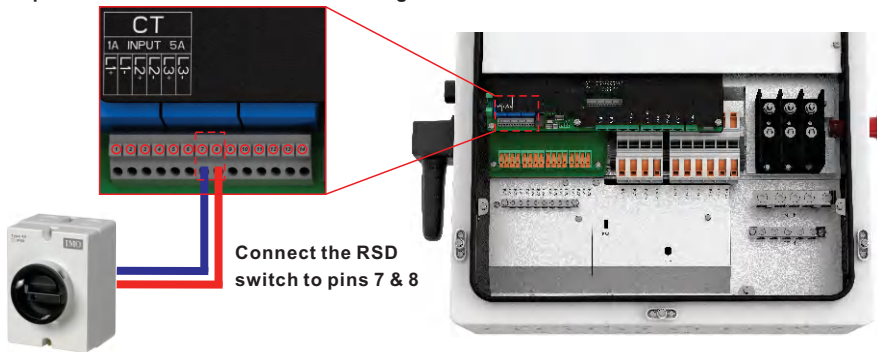

Figure 5.20 External RSD Initiation Switch
2. Remove the red jumper from the RSD+ and RSD- pins #7 & #8 (see Figure 5.20)